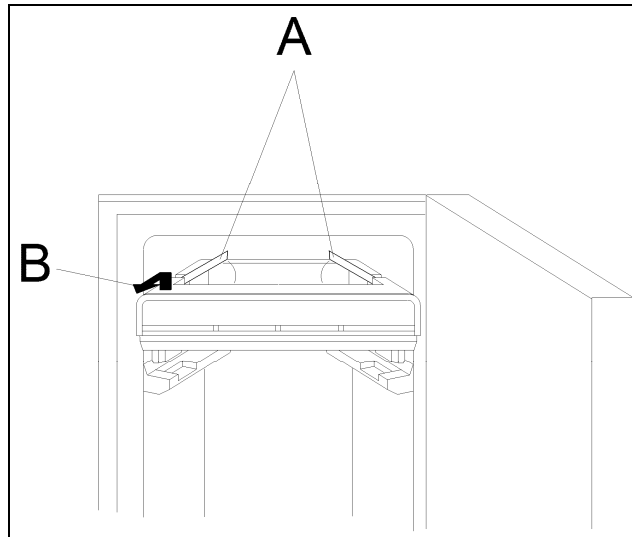

Figure 010-16: Evaporator Insulation and Tape
5. Remove the pieces of tape securing the polystyrene insulation to the evaporator assembly; see Figure 010-16, Items A and B. The tape is used only for protection during shipping and will not be required during evaporator reinstallation.